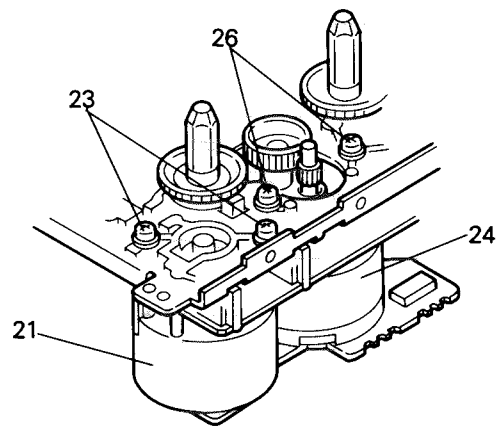

Fig. 7-27
■ **Reel and Actuator motor assembly** (Fig. 7-27, 7-28)
1. Remove four screws (23, 26) retaining the reel motor (21) and the actuator motor assembly (24). (Fig. 7-27)